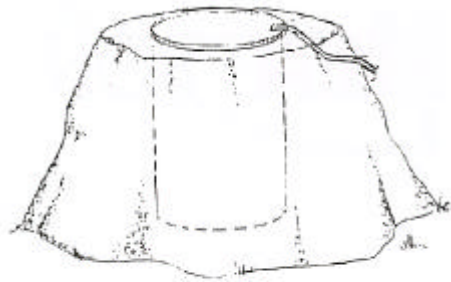

Figure 1
**Figure 1.** Dig a hole in the center of the sand pile large enough to insert a 55 gallon drum (as in figure 1) or dump sand over the barrel at delivery time. Brick, block, or rock can be heated using the same method.